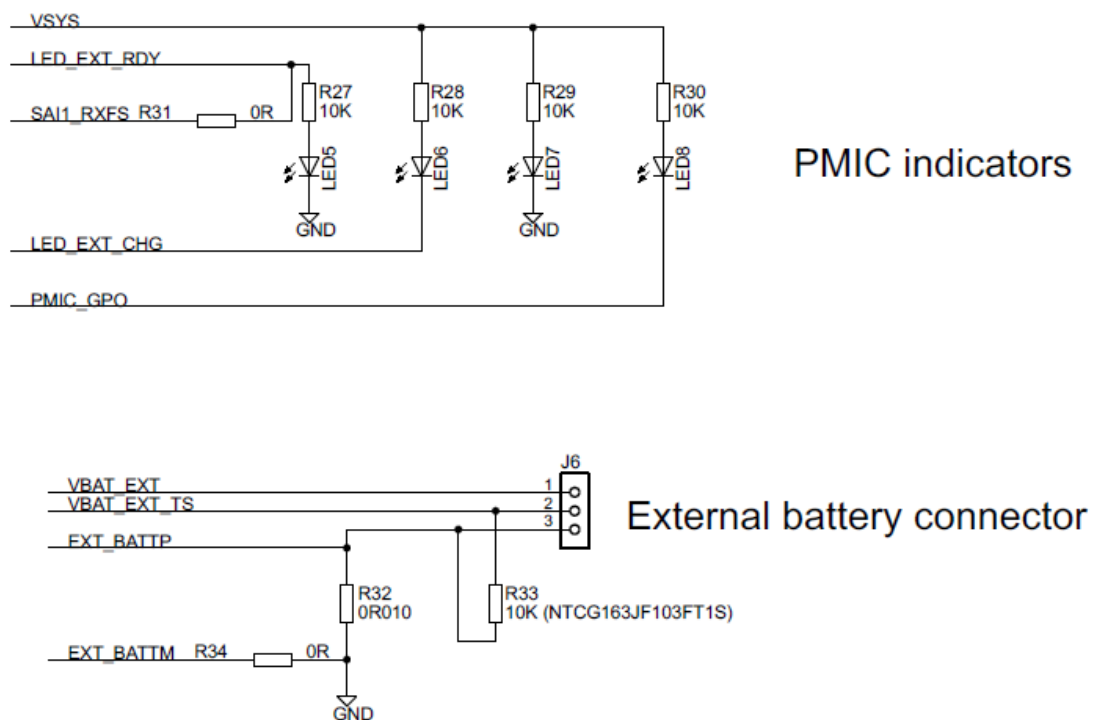

Figure 7 – Battery Integration to iMX7 Dual uCOM Board
- Connect each side of the 10 milliohm resistor to EXT_BATTP/EXT_BATTM. Also connect an NTC termistor between EXT_BATTP and VBAT_EXT_TS. See Figure 7 for details.
- Optionally connect a LED with series with a 10K resistor between VSYS and LED_EXT_CHG. See Figure 7 for details.